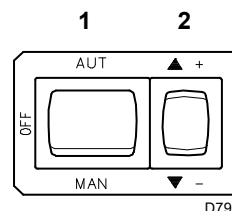

Fig. 23
- Start the burner by closing the control devices and with the switch 1)(Fig. 23) in "MAN" position. As soon as burner starts, check the fan rotation direction through the flame inspection window 19).
- Stop the burner: set switch 1)(Fig. 23) to "OFF" and tighten the screw 3).